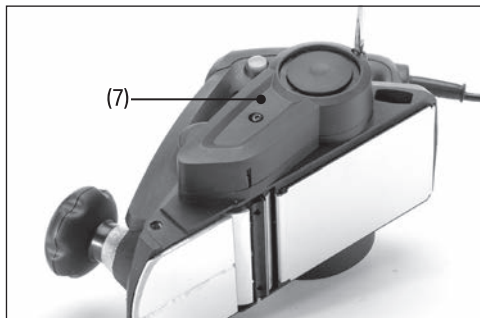
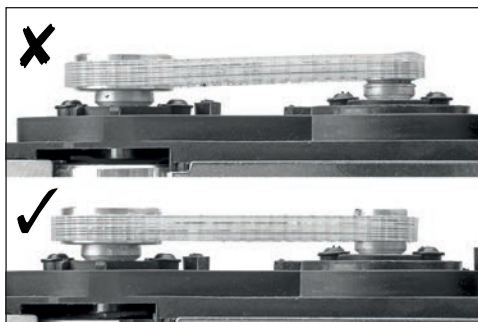

Fig. 9
Fig. 11
8.3 Transmission Belt Replacement (Fig.9 – Fig.11)